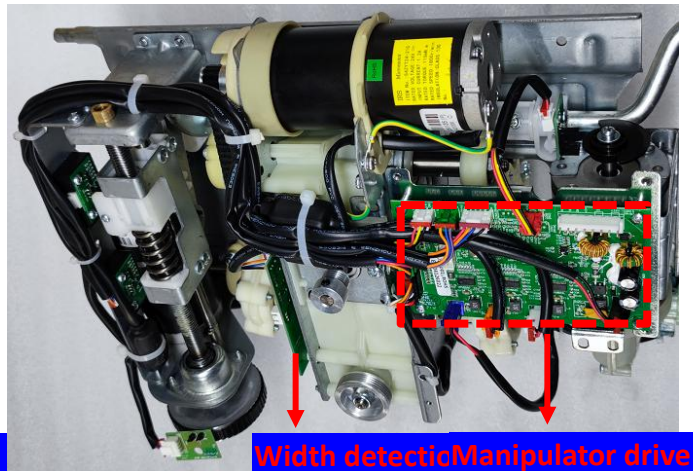

Figure 2
- A. First, check whether the wiring harness of the manipulator drive board has poor contact or the plug-in falls off (Figure 2);
- C. Judging whether the driving board is damaged by substitution method (Fig. 2);